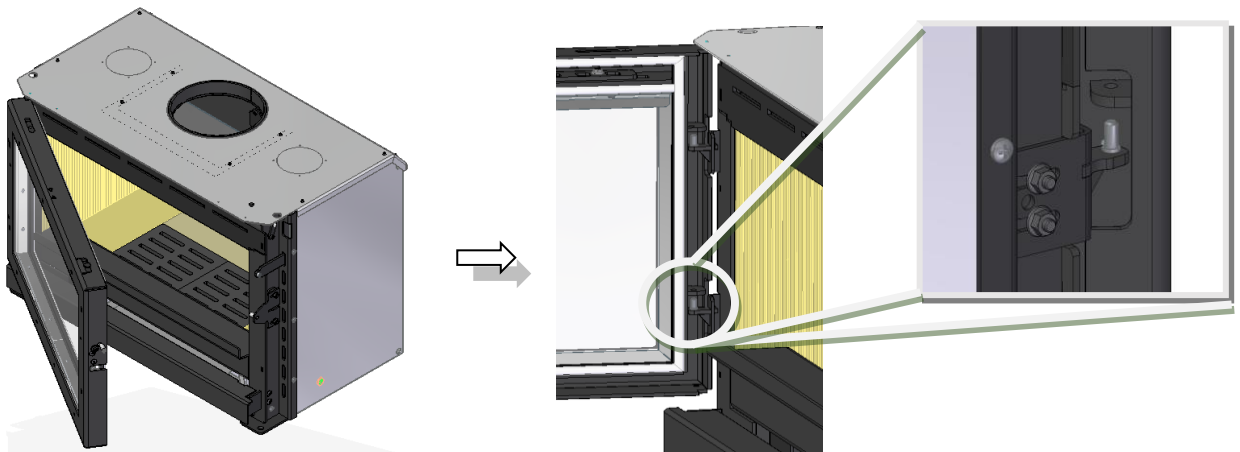
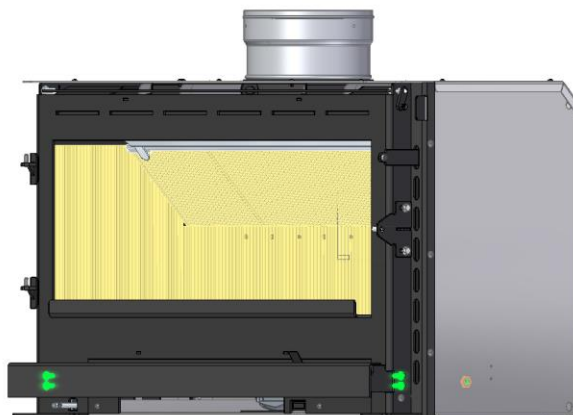

Figure 10 - Disengaging the door from the supports
Figure 11 - Removing the lower flap
9. You should note that when you put the equipment in place you should remove the door by lifting it upwards in order to remove the door from the supports, Figure 10. If your equipment is a door made of sheet metal, it is advisable to also remove the lower panel by loosening the side screws as shown in Figure 11. If it is a glass door unit there is no lower panel.